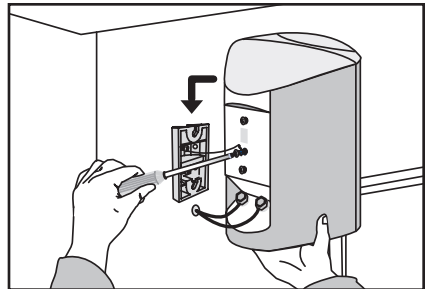

Figure 4. Mounting speaker on the bracket.
3. Bring the speaker to the bracket and connect the cables as outlined in this manual. Connect the safety strap to the speaker using the middle hole (figure 4). Mount the speaker onto the bracket using an 'in and down' motion.